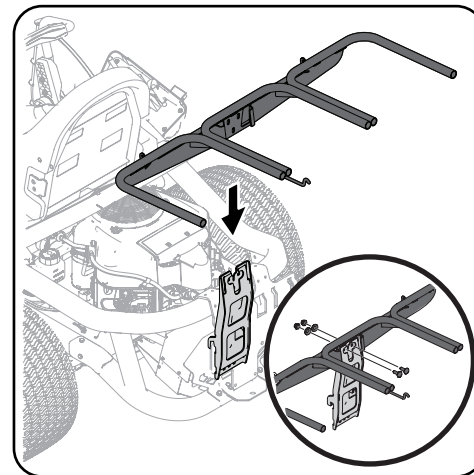

Figure 4-8
2. Install and secure the hanger assembly onto the upright support bracket using two carriage bolts (710-0276) two cup washers and two flange lock nuts (712-04063) from hardware pack 689-01419. Figure 4-8.